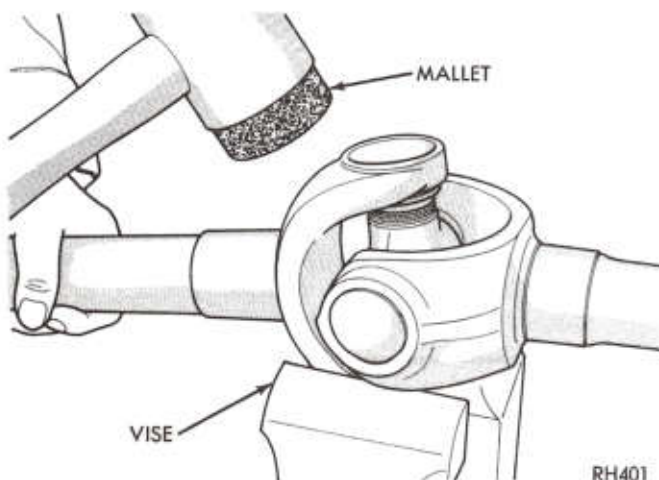

Fig. 13—Removing Bearing Caps
(1) Remove the snap rings from the two ears in each yoke.
(2) Position joint assembly in an open vise with one yoke "horizontal" and resting on top of vise jaws (Fig. 13). Do not tighten vise.
(3) With a mallet, tap upper ear of "vertical" yoke several times, driving vertical yoke down pushing out upper needle bearing and cap.
(4) Reverse yoke and remove opposite needle bearing and cap.
(5) Work yoke off arms of cross.
(6) To complete disassembly, position open ends of cross between soft jaws of vise and repeat steps 3 and 4 to remove remaining bearings and cap.
(7) Work cross free from yoke.
(8) Clean and inspect all parts. Clean any rust from axle shaft splines. **Keep each bearing and cap assembly separate.** If any component parts are worn or damaged a complete new joint assembly should be installed.
(9) Repack joint with MOPAR Multi-Mileage Lubricant Part No. 4318062 or equivalent.